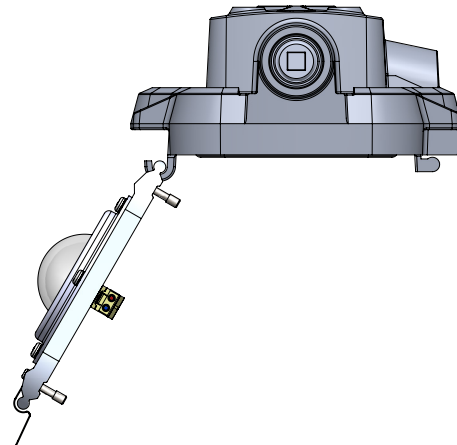

Figure 5. LED light engine fitting removal/installation
8. LED light engine fitting should now be disconnected and may be lifted off the luminaire driver housings hooks (see Figure 5).
10. Hang the replacement LED light engine fitting on the driver housing hooks as shown in Figure 5.
10. Hang the LED light engine fitting on the driver housing hooks as shown in Figure 5.